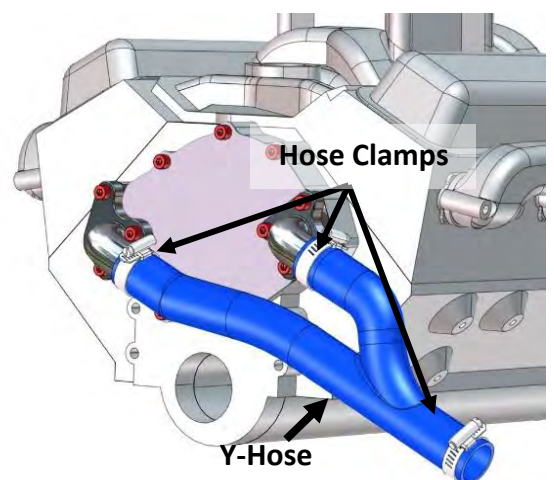

Figure 4
8. Pre-assembly - take three hose clamps and slide one loosely over each end of the silicon adaptor hose. Pre-fit the silicon adaptor hose, slide the respective ends over the two header-adaptor outlets (refer figure 4).